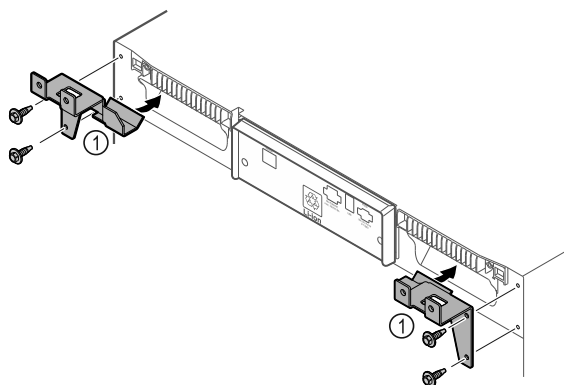

Fig. 9
- ▶ Mount retaining parts Fig. 9 (1) on the appliance using the supplied screws.